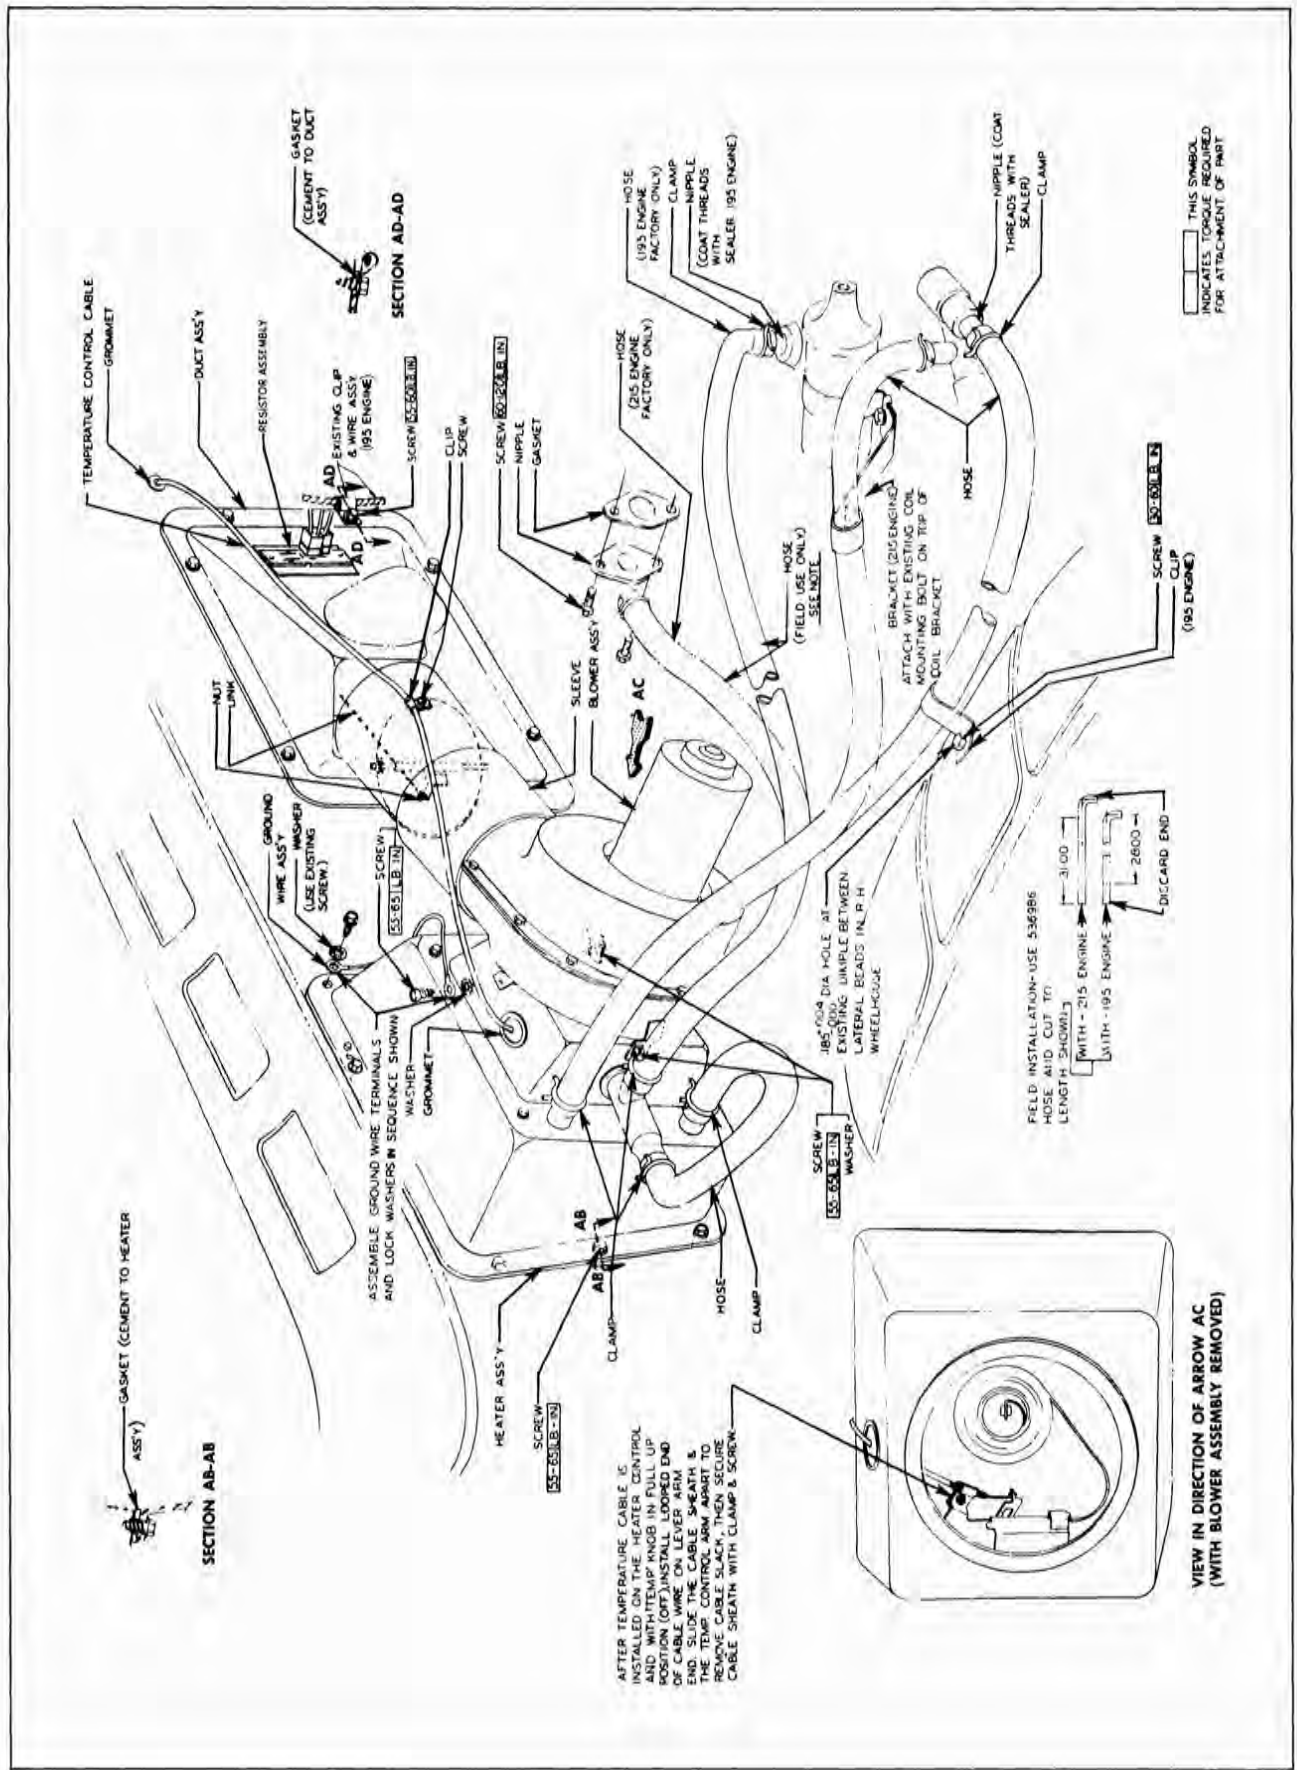

Fig. 2-20 Reference Illustration—Engine Compartment Details
3. Disconnect water inlet hose (intake manifold to temperature control valve) at temperature control valve (Fig. 2-20).